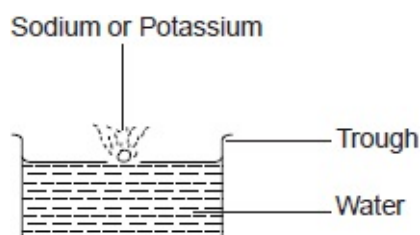

Fig 5.2: Reaction of sodium metal with cold water
- (a) Cut a very small piece of sodium metal, the size of a rice grain. Drop it into a trough containing cold water, as shown in figure 5.2. Test the solution in the trough using pieces of red and blue litmus papers. Record your observations.